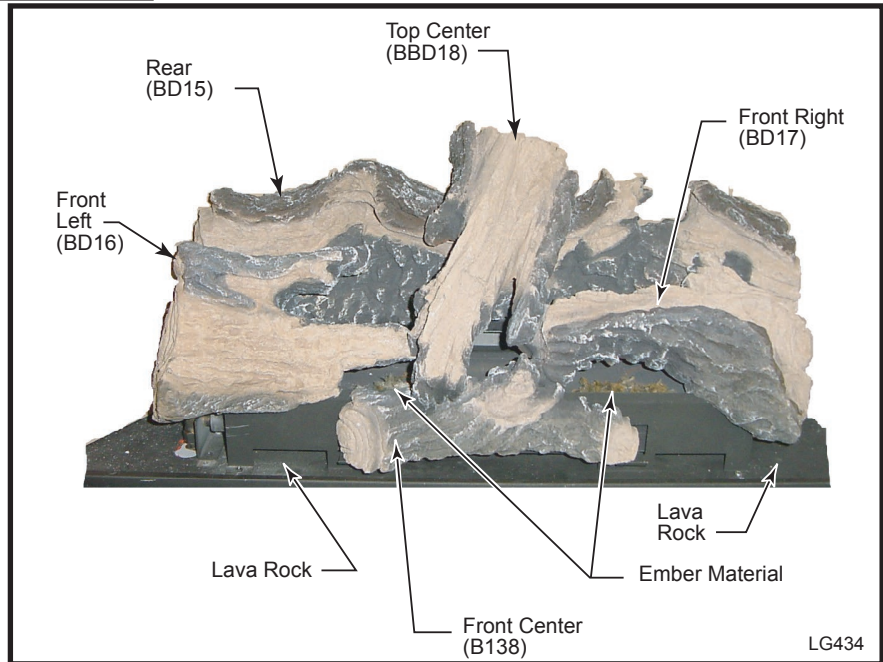

Fig. 44 Correct log placement for 43LDVR.
5. Scatter the ember material over the tiles on the front area of the burner housing. (Fig. 44) Do not pack the ember material. Separate it when unpacked and keep it in a fluffy and loose condition for a more realistic ember effect.